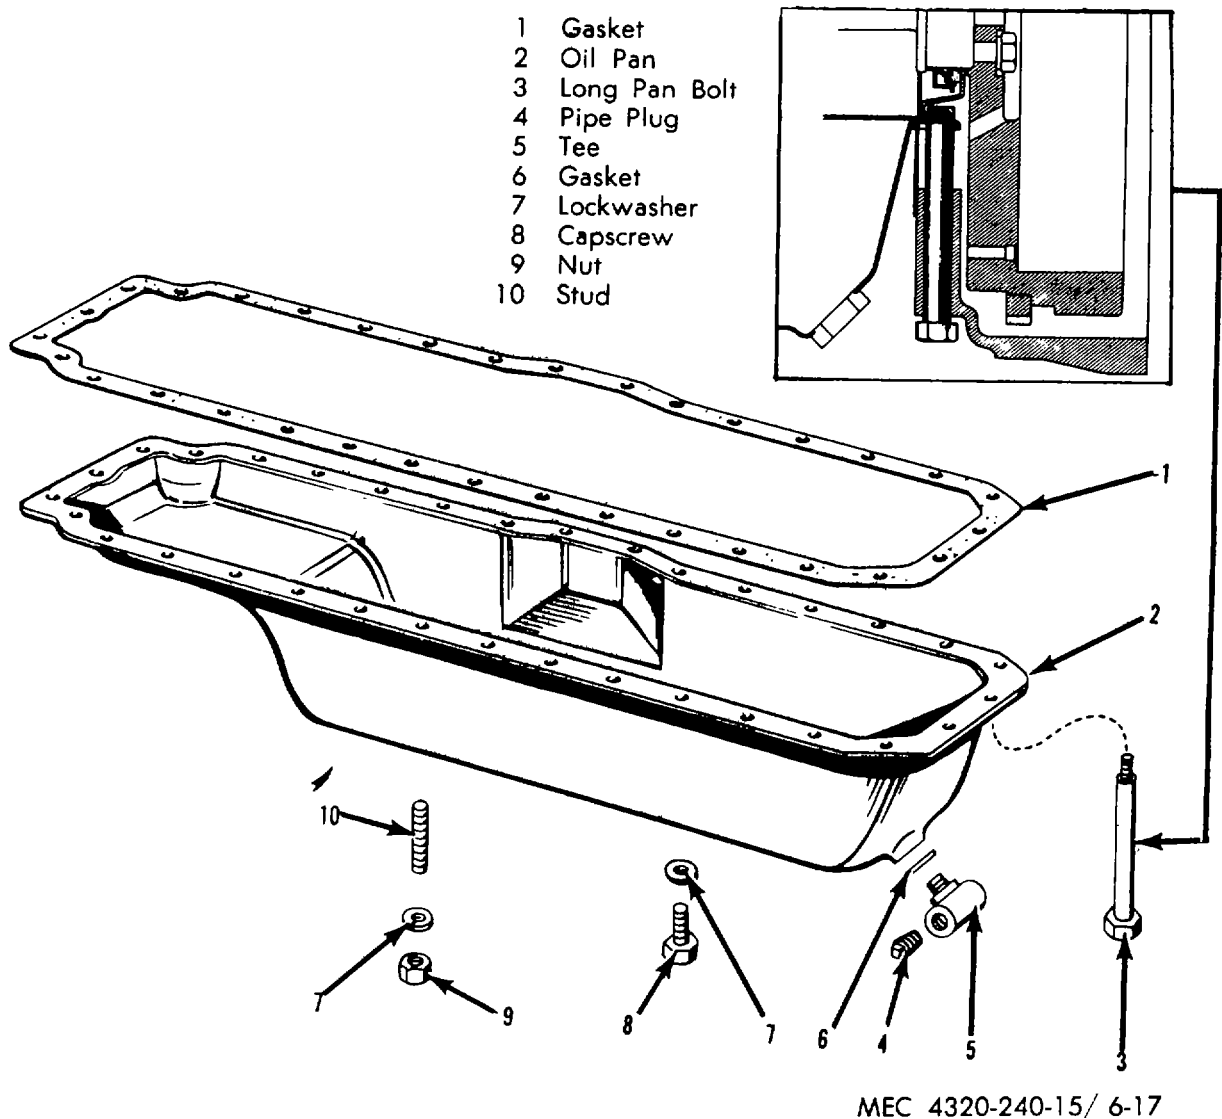

Figure 6-17. Oil pan-exploded view.
(2) Position engine on side, be careful not to damage any of the protective housing.
(3) Refer to figure 6-17, remove nuts (9), washers (7), capscrews (8), and special capscrews (3).
(4) Remove oil pan and gasket.
c. Disassembly. Refer to figure 6-17 and disassemble oil pan.
(1) Wash oil pan in an approved cleaning solvent, and dry thoroughly.
(2) Inspect for cracks, dents, and missing parts.
e. Reassembly. Refer to figure 6-17 and assemble the oil pan.
(11) Refer to paragraph 6-14b and remove the oil pan.
(12) Refer to paragraph 6-17b and remove the flywheel and flywheel housing.
(13) Refer to figure 6-17 and remove the oil pump.